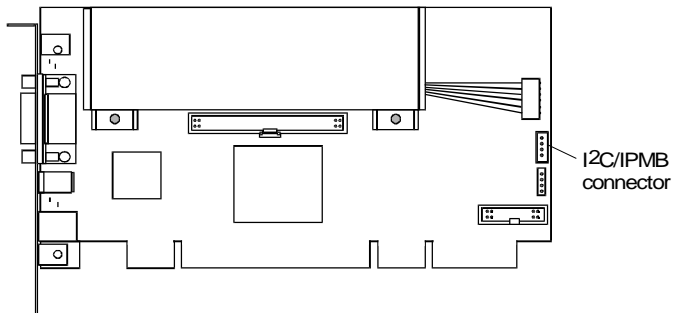

Figure 3-2. Locating the I²C/IPMB Connector
1. Locate the I²C cable connector on the HP TopTools Remote Control card. You'll find it next to and just below the battery pack connector. (Refer to Figure 3-2.)